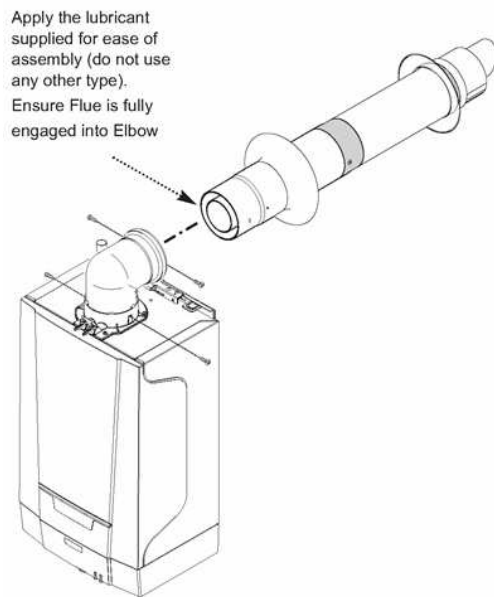
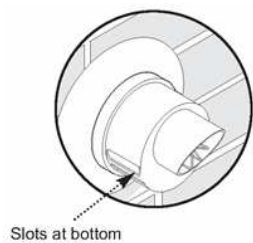

Fig. 30
Fig. 31
12. Draw the flue back through the wall and engage it in the elbow. It may be necessary to lubricate to ease assembly of the elbow and flue (Fig. 30).
13. Ensure that the terminal is positioned with the slots to the bottom (Fig. 31). Secure the flue to the elbow with the screws supplied (Fig. 30).